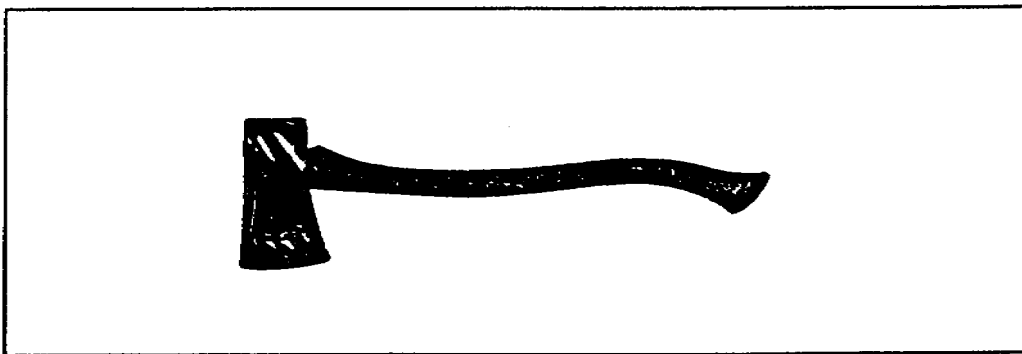

Figure 2-30. Axe
b. Axe. This is similar to the hand axe but larger, with a long handle. As you can see in Figure 2-30, it is intended for heavy cutting and should be used with both hands. It is sharpened in the same manner as the hatchet.